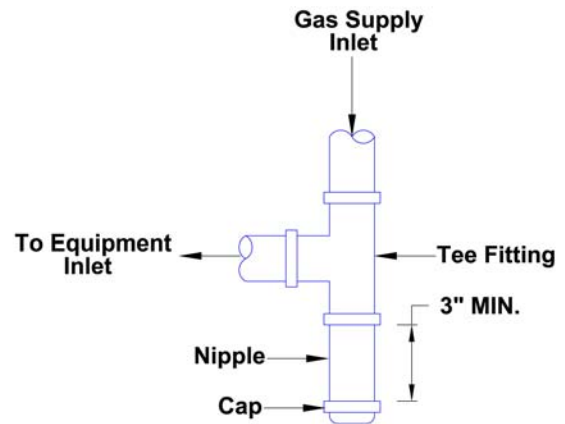

Figure 15: Sediment Trap (Typical)
**NFPA Code and Hearthstone require the use of a dedicated sediment trap just upstream of the unit. Damage to the valve, or other components due to the lack of a sediment trap are not covered by warranty (see figure 15).**